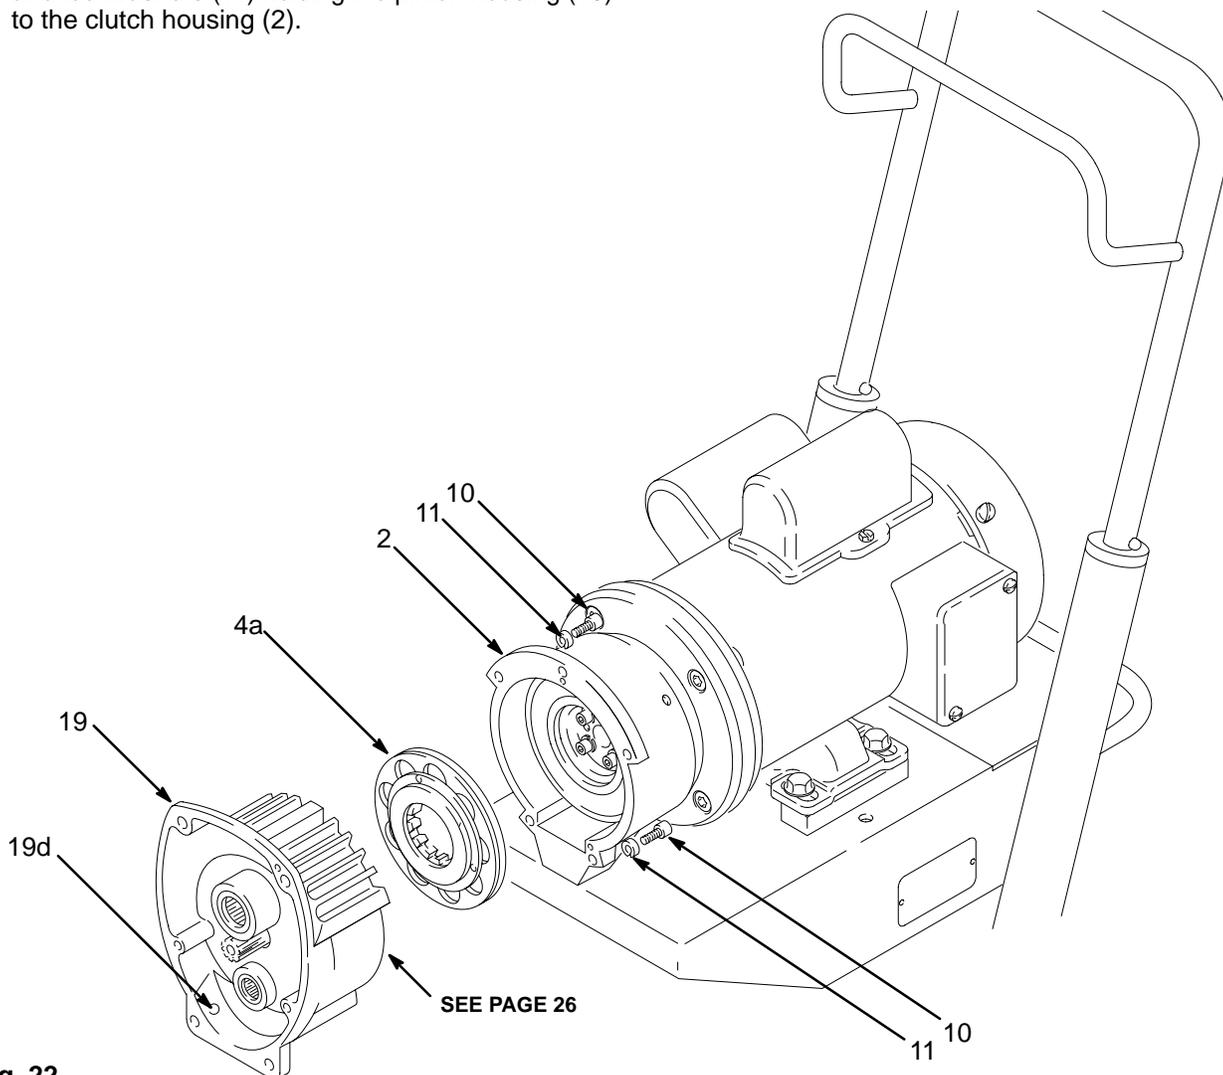
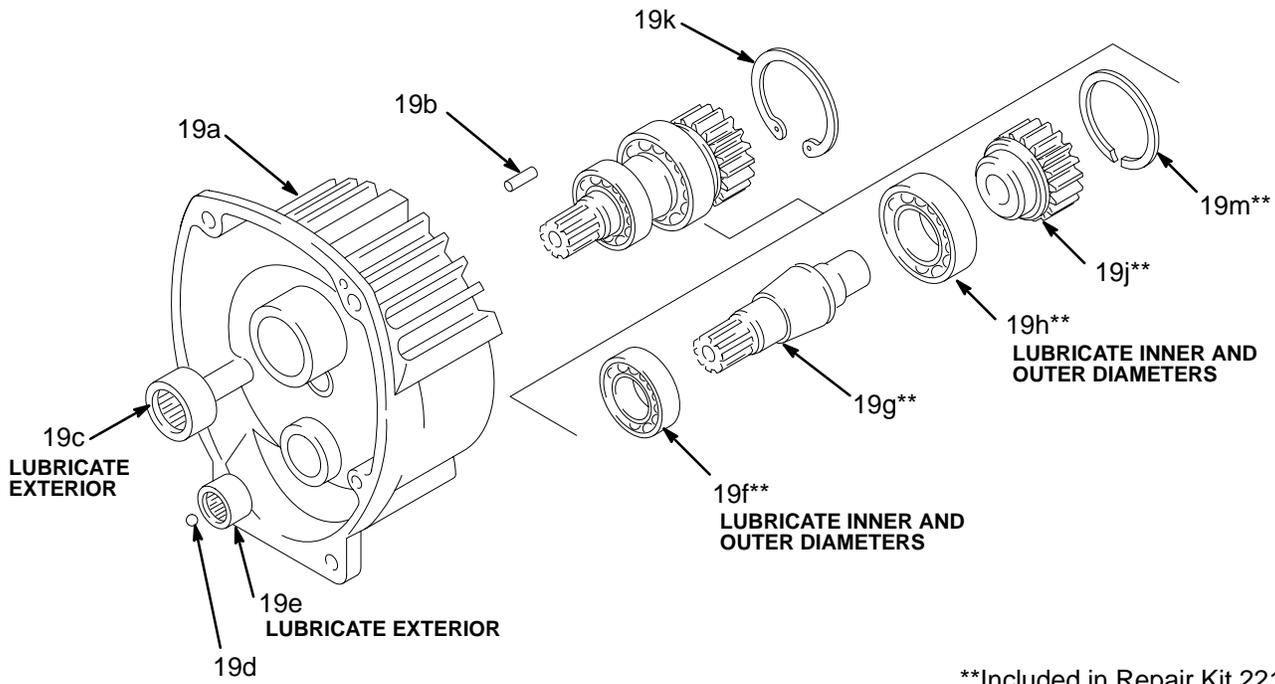

Fig. 22
Fig. 23
**NOTE:** Refer to Fig 22 for Steps 1. to 3..
1. Remove the two bottom screws (10) and lockwashers (11) first, and then remove the three screws (10) and lockwashers (11) holding the pinion housing (19) to the clutch housing (2).
3. Pull the armature (4a) off the hub (19j – see Fig. 23) of the pinion housing.
**NOTE:** Refer to Fig 23 for Steps 1. to 5..
1. Apply lubricant to the parts as shown in Fig 23.